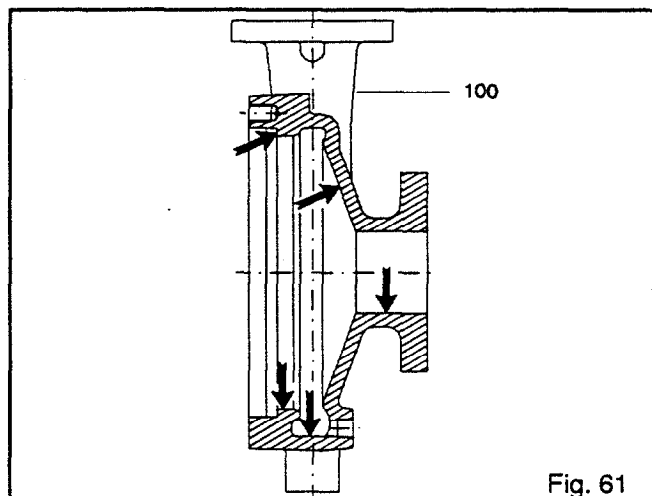

Fig. 61
The casing (100) should be inspected for excessive wear or pitting. It should be repaired or replaced if it exceeds the following criteria (Fig. 61).